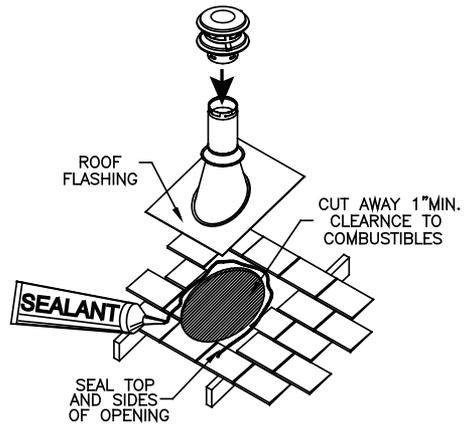
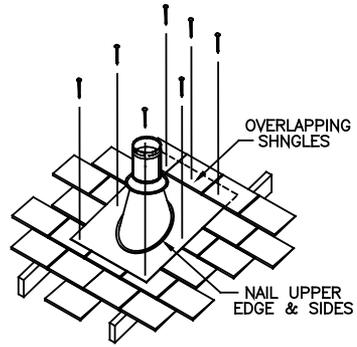

Figure 7
Figure 8
H. After lining up for the hole in roof, using the same method as 2. (B), cut either a round or square hole in the roof (*Figure 7*). Always cut the hole with the proper clearance to the vent pipe. Install the upper edge and sides of Flashing under the roofing materials and nail to the roof along the upper edge and sides (*Figure 8*). Do not nail across the lower edge. Seal all nail heads with non-hardening waterproof sealant.